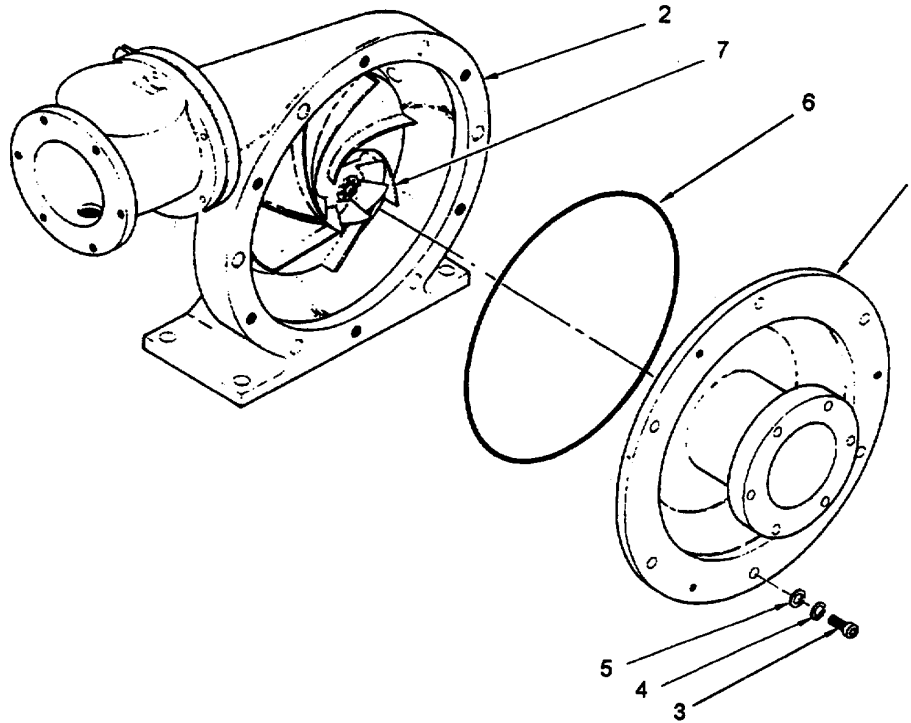

Figure 5-3. Fuel Transfer Pump Inlet O-Ring Replacement
5.4.1 Replace Fuel Transfer Pump Inlet O-Ring. (Refer to figure 5-3.)